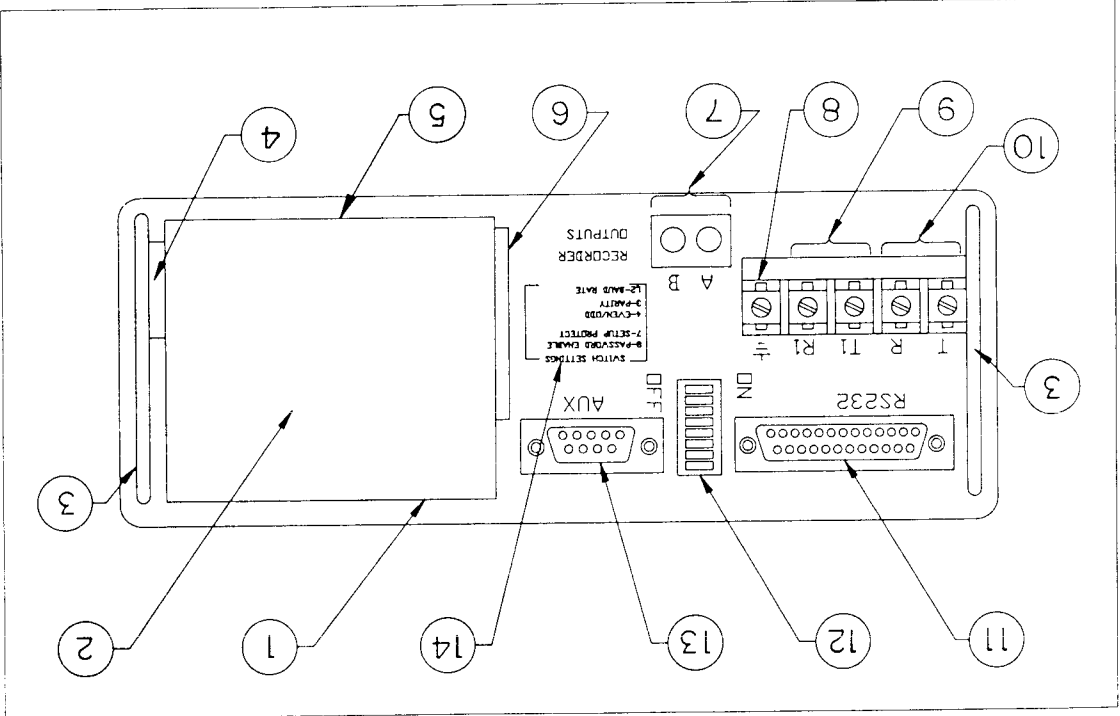

Figure 3-3. Rear Panel Components
The connections of this jack are the same as screw terminals T1 and R1 on the Rear Panel, item 9 in Fig. 3-3.
The connections of this jack are the same as screw terminals T and R on the Rear Panel, item 10 in Fig. 3-3.
RS232 Port, Option 25-0019. The RS232 Port is required for printouts and external control of the AM5XT/eXT from a terminal or computer. The RS232 Port makes possible additional functions and capabilities that cannot be done with the front panel controls alone. A unit equipped with this option has an RS232 connector (item 11 in Fig. 3-3) on the rear panel. See Section 12 concerning RS232 Port operation.
X-Y Plotter Outputs, Option 25-0045. Voltages are delivered to rear panel Bantam jacks which are connected to an external plotter for hard copy graph of test results. A unit equipped with this option has two (2) Bantam jacks (item 7 in Fig. 3-3) on the rear panel. See ¶13.01 for details. This option is not available for an AM5XT-BASIC.